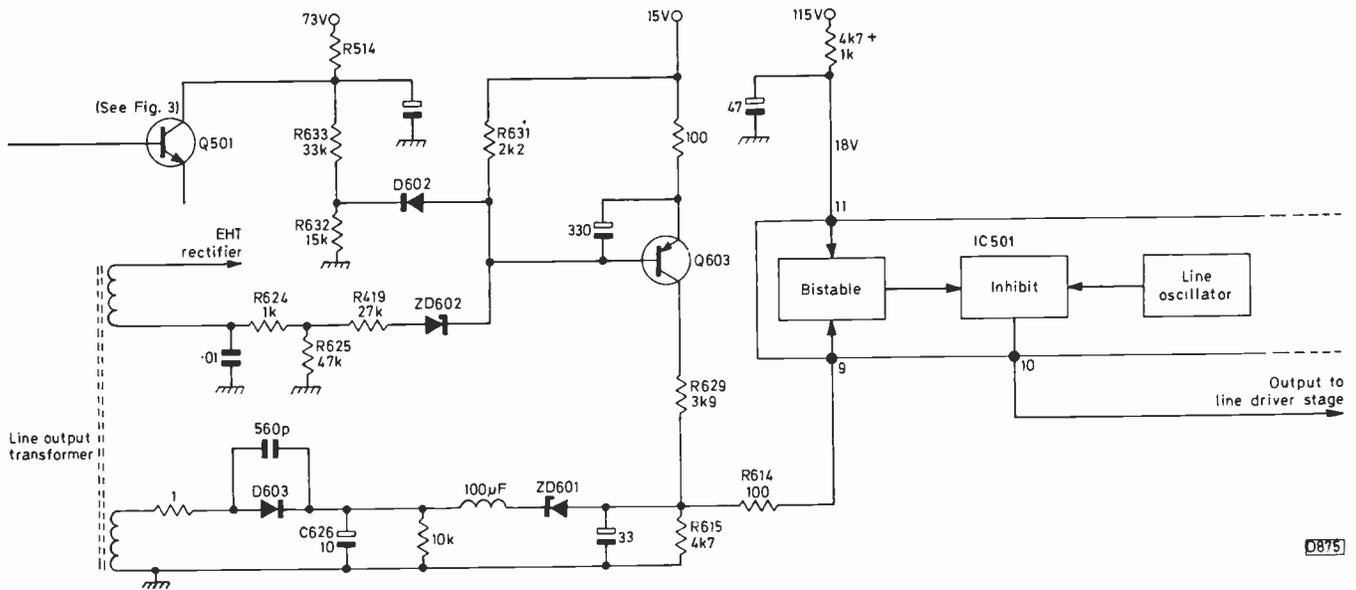

Fig. 2: The shut-down protection circuit.
Further protection is provided by a circuit (see Fig. 2) that comes into operation under either of three fault conditions: (1) excessive beam current; (2) field output stage failure; (3) excessive line flyback pulse amplitude. In any of these circumstances the voltage across R615, and thus at pin 9 of IC501, rises. IC501 contains the line generator circuit, whose output is inhibited when pin 9 goes high. The line timebase thus closes down, leaving the set in a safe condition. What happens when pin 9 goes low again? The effect of pin 9 going high is to switch the state of a bistable within IC501: so the line timebase inhibition continues when pin 9 goes low. The set has to be switched off for approximately one minute to restore line drive.